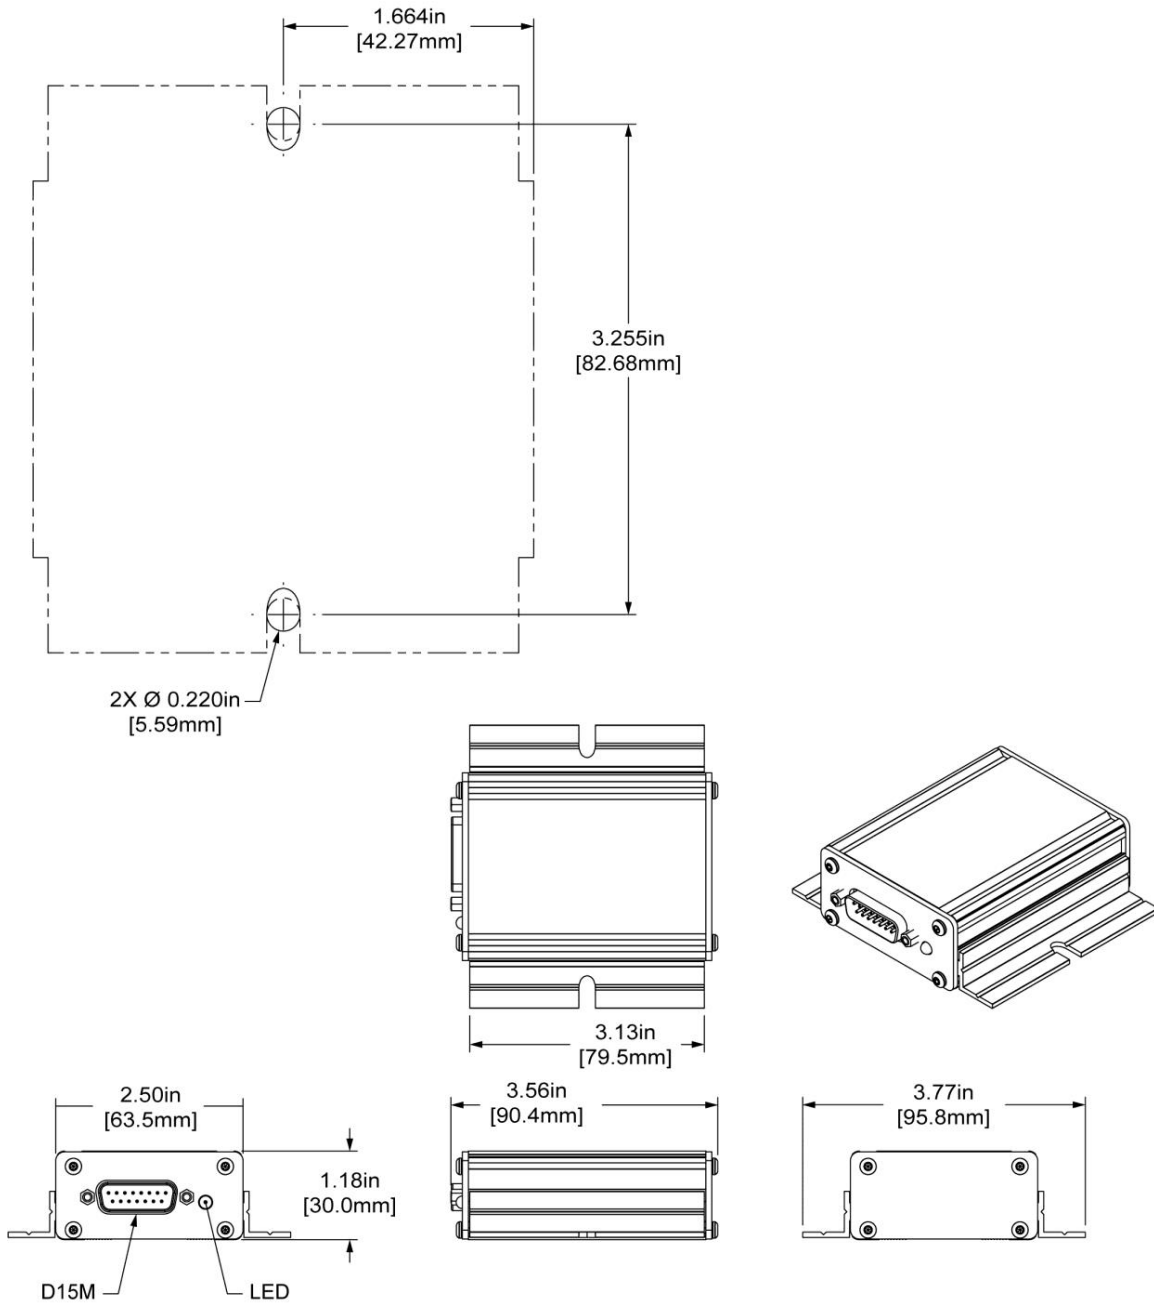

Figure 236 – SV-AP-TRIMAMP Installation Dimensions
- Mounting location should have adequate space for module, electrical connections, and servicing (see Figure 236 for mounting dimensions).
2. Use Figure 236 and mounting holes on unit as template to mark hole locations on airplane structure.